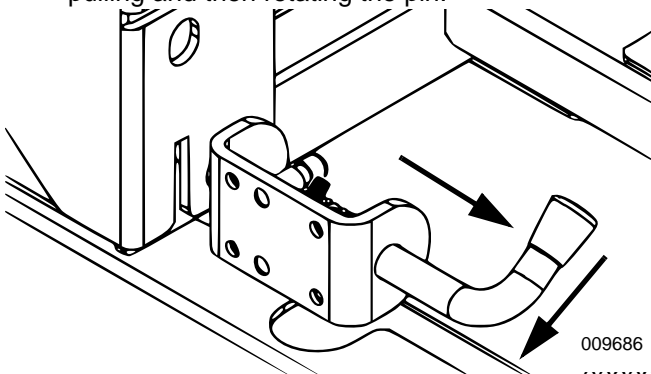

Figure 3-6. Disengaging Safety Pins
2. Locate safety pins (B) on each side of the step.
3. See **Figure 3-6**. Disengage each safety pin by first pulling and then rotating the pin.